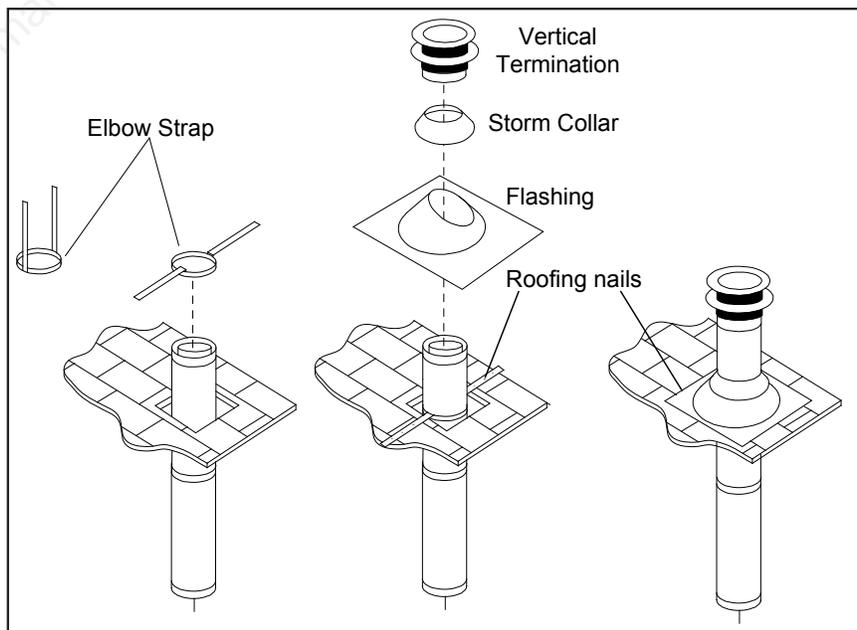

Figure 31: Vertical Vent Termination Installation.
6. Once the pipe sections have been joined, and run up through the hole in the roof, slip an elbow strap over the exposed sections, bend the support straps outwards, and push the elbow strap down to the roof level, as shown in Figure 31. Tighten the clamp around the pipe section. Use a level to make sure the pipe is truly vertical. With roofing nails, secure the support straps to the roof. Seal the nails holes heads with non-hardening mastic. Trim the excess length of
9. Slip the storm collar over the pipe, and push it down to the top of the roof flashing as shown in Figure 31. Use the non-hardening sealant around the joint between the pipe and the storm collar.